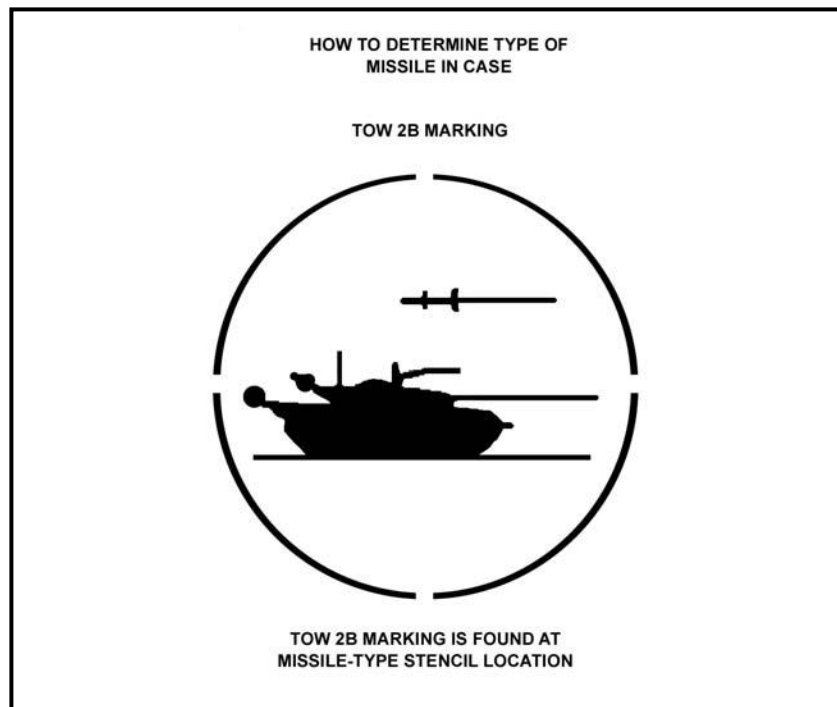

Figure 1-4. TOW 2B marking.
b. The TOW 2B missile is unique because it is an FOSD missile. It is marked with a decal as shown in Figure 1-4.